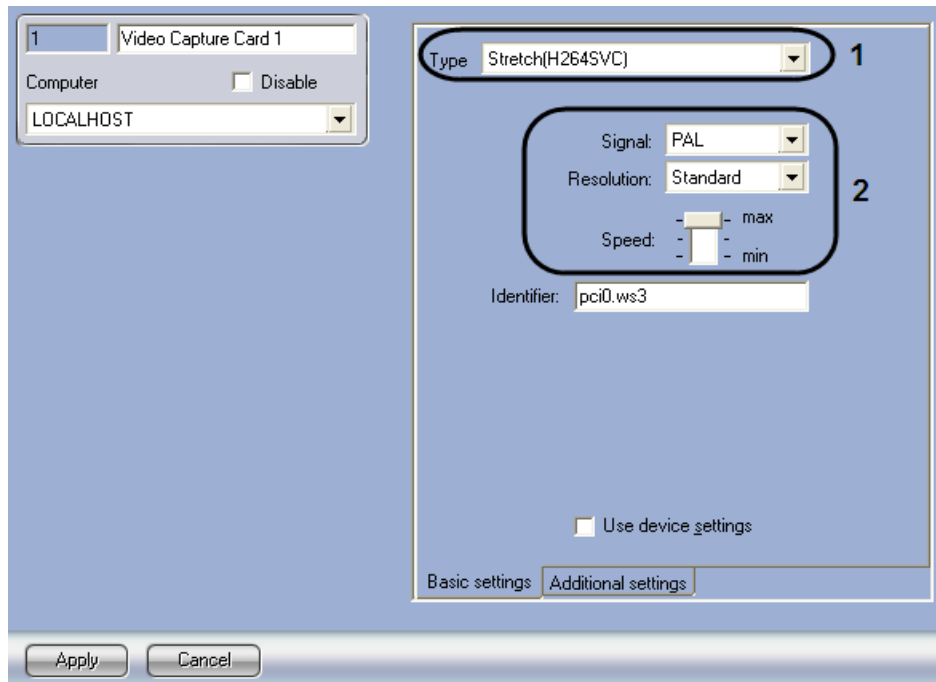

Figure 3.1-9 Setting panel of the Stretch video capture card. Basic settings tab
3. Select **Stretch (<compressor>)** in the **Type** list on the setting panel of the object. As a result the setting panel is refreshed (Figure 3.1-9, 1).
4. Set the values to the basic parameters of the card (Figure 3.1-9, 2). Detailed description of parameters is given in *Creating and configuring the Video capture card object* section (see 5.3 – 5.5 steps).